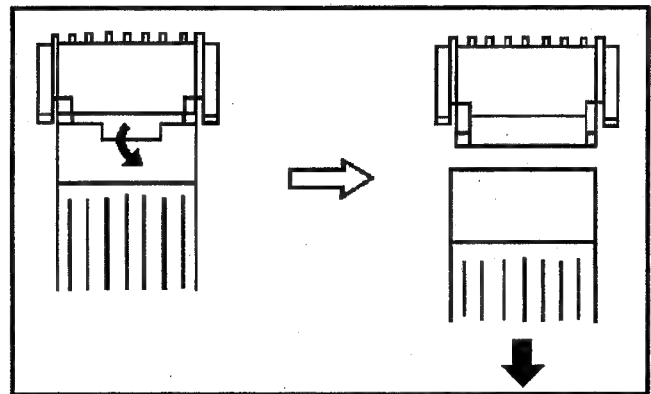

Fig. 6-1-2
**Note:** Be careful when remove the flexible cable from the connector. Refer to Fig. 6-1-2.